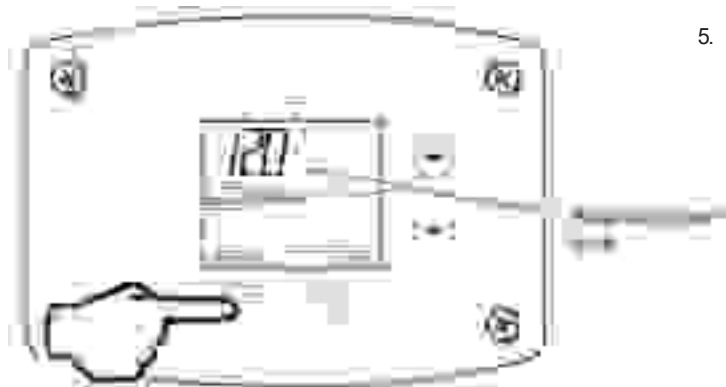

Fig. 65
5. Pressing 'Select' button will return display to setpoint in format selected (°F or °C) immediately (Fig. 65).